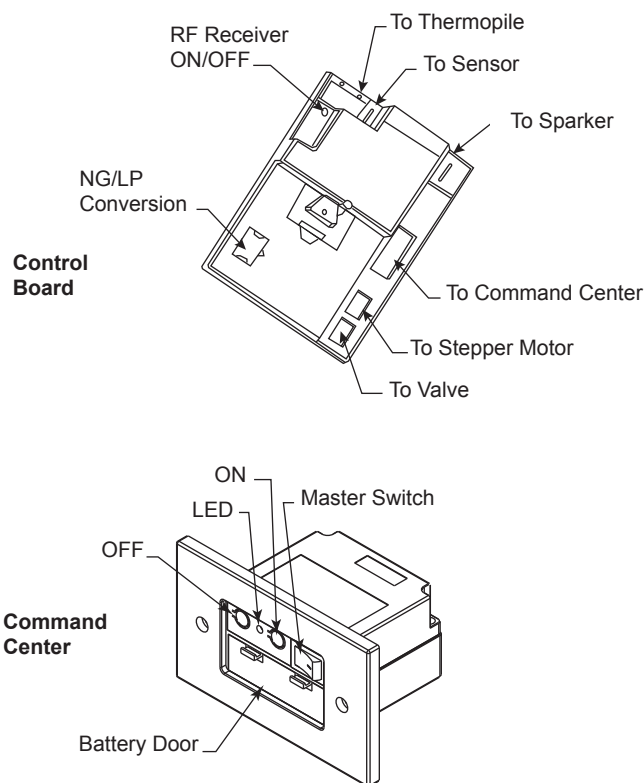

Figure 57 -
1. The RF receiver button located on the Control Board must be in the on position before the learn function can begin. Use paper clip to depress button. One beep for RF receiver ON or two beeps for RF receiver OFF will be given as confirmation. Refer to Figure 57 for location.